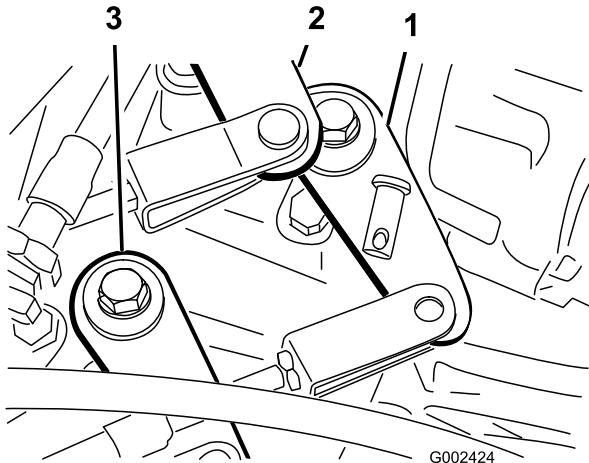

Figure 43
2. Remove the clevis pins securing the shift cables to the transaxle shift arms (Figure 43).
1. Remove the clevis pin securing the high-low cable to the transaxle (Figure 43).